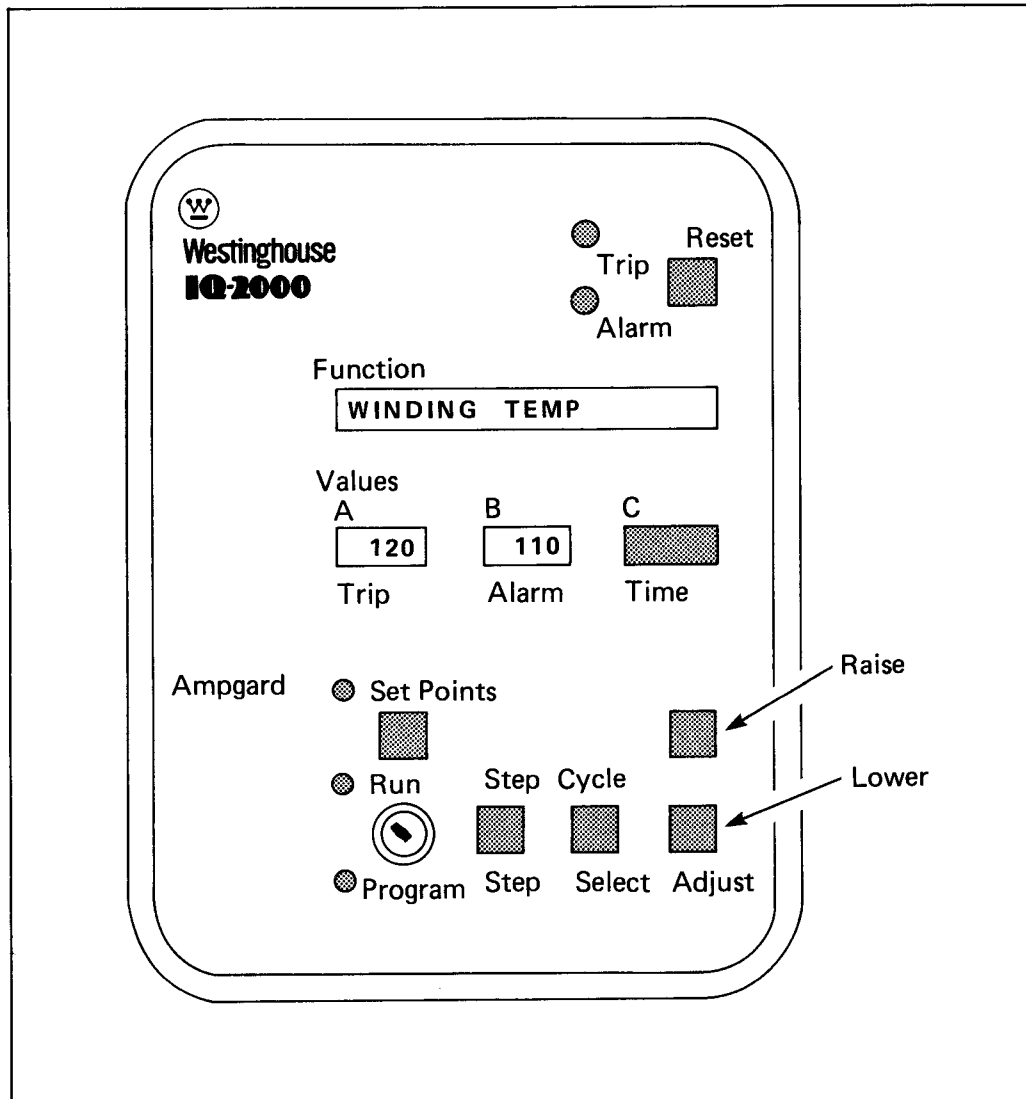

Figure 4.3 – Winding Temperature Displays
Step 1 – Turn the RUN/PROGRAM keyswitch to the PROGRAM position. At this time the FUNCTION window displays the message WINDING TEMP. If any setpoint values were previously entered, they will be shown in the VALUES windows. (See Figure 4.3.) If not, zeroes will be shown.